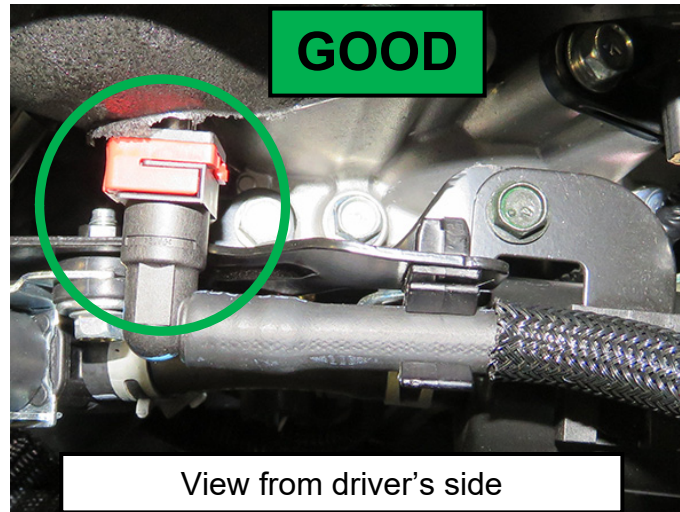

Figure 4
- If the fuel feed hose retainer is secured as shown in Figure 4, skip to step 7.